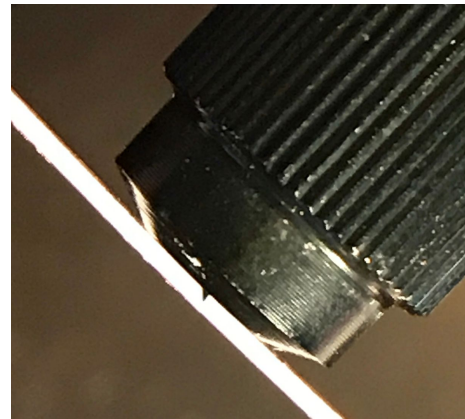

Figure 4.
- When the blade is placed in the holder, you must manually adjust how much of the blade protrudes from the blade holder. It is a common mistake to have too much of the blade exposed. A good starting point for blade depth adjustment is approximately $\frac{1}{2}$ of the thickness of a credit card. *Figure 4* is a close up of how the blade depth is set on my cutter. The most important thing is to have enough blade exposed so that it can cut cleanly through the film and adhesive. If you are cutting thicker materials, you may have to expose slightly more blade.